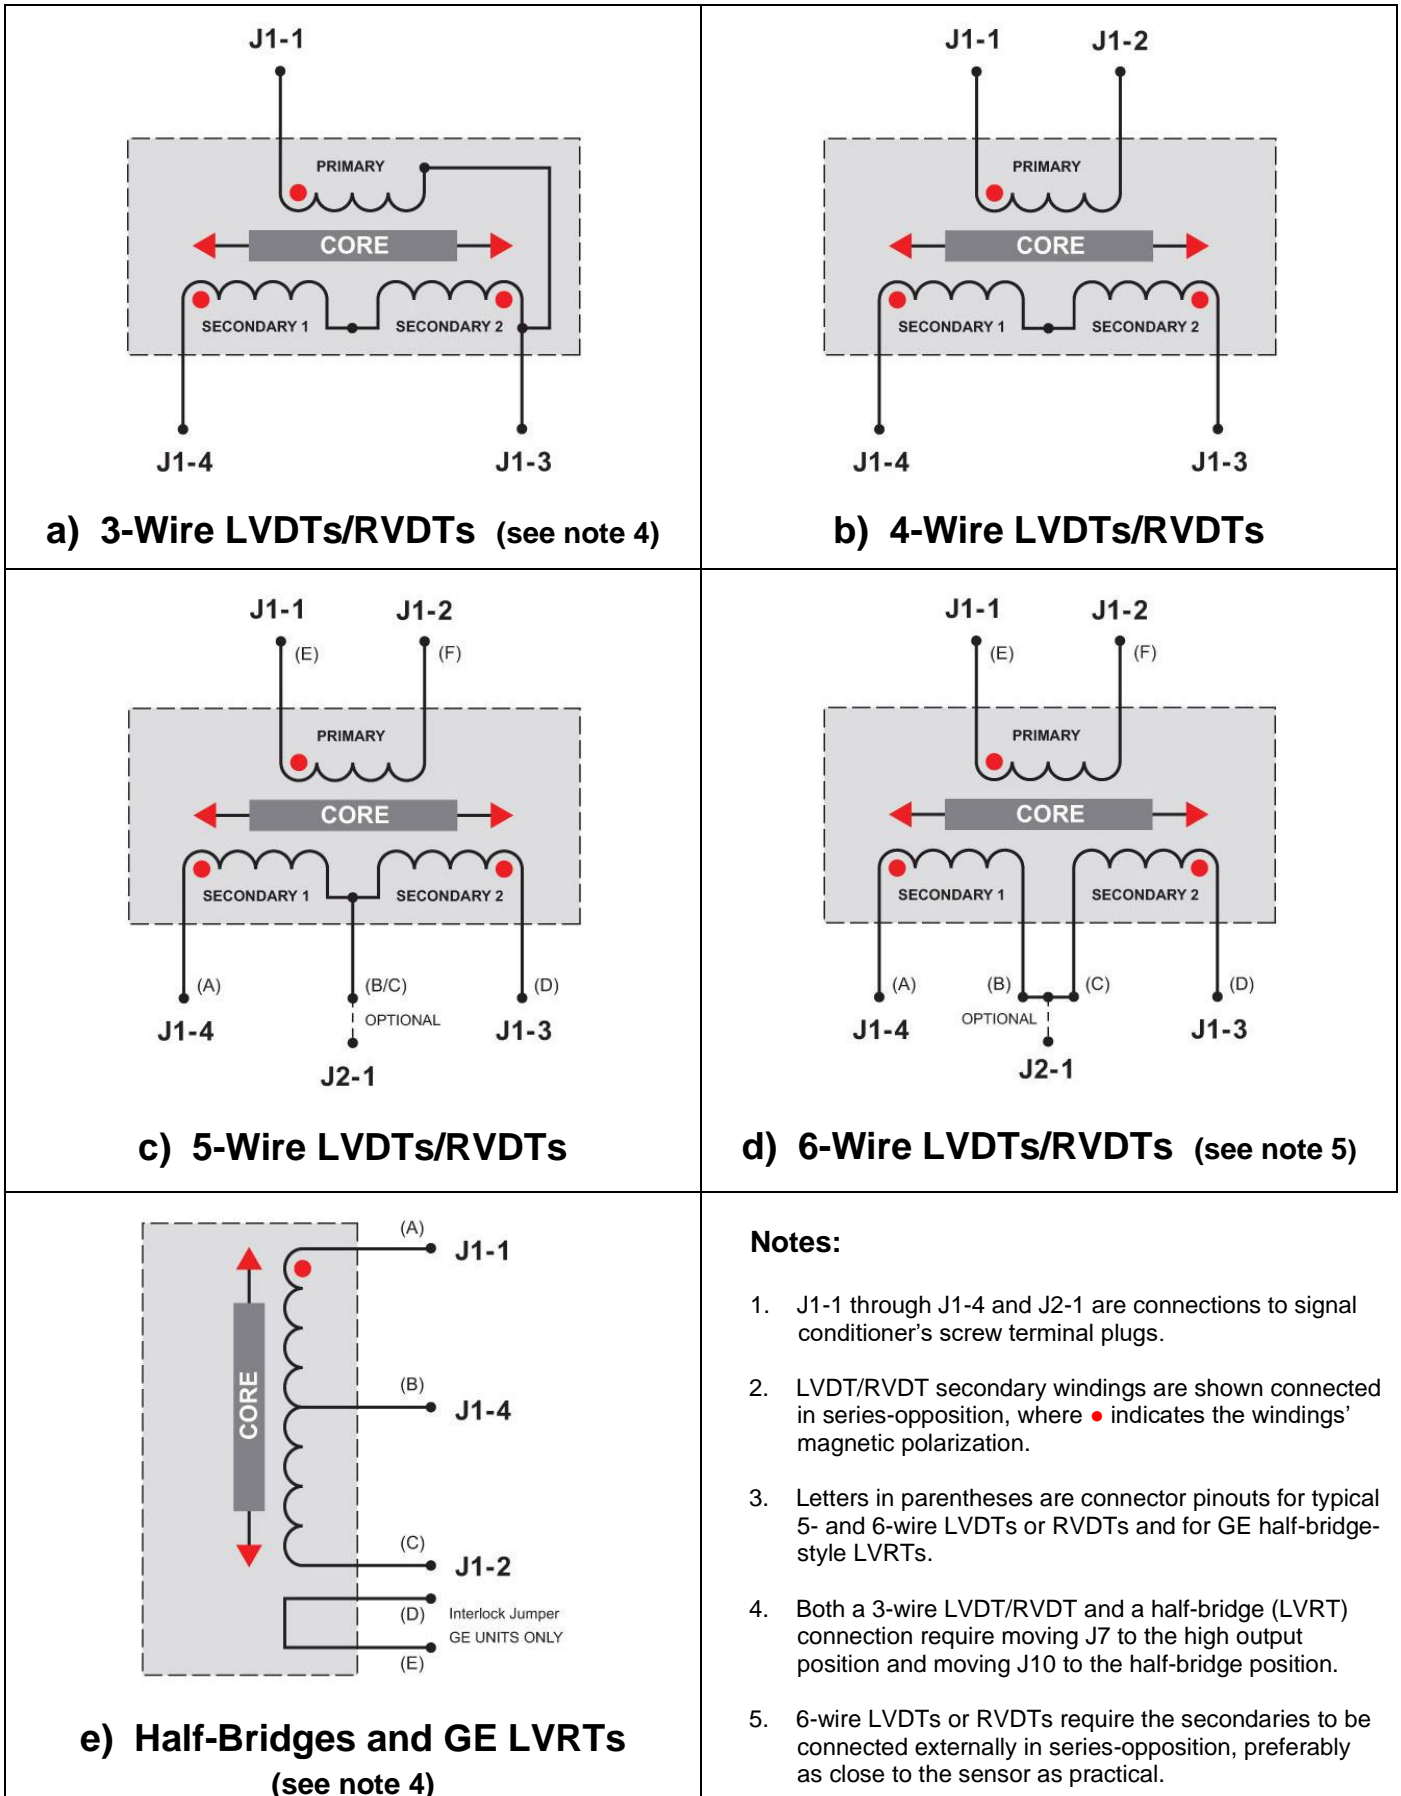

Figure 4 LVDT or RVDT and Half-Bridge (LVRT) Wiring Connections to S2A Signal Conditioner
4. Make the I/O connections: Following the connections on the right side label or in Table 3 on page 3 and the schematics of Figure 4 on page 4, connect the color-coded screw-terminal plugs at least to the LVDT's primary and secondaries (and the secondaries' junction point if needed), to DC power, and to the input of the PLC, control system, or analog output indicator. Never ground J1-1 or J1-2 (black plug) because that will short out part of the excitation voltage. Connections to a failure alarm or the master/slave bus can also be made at this time. When finished, insert the colored plugs completely back into their corresponding colored jacks on the module.